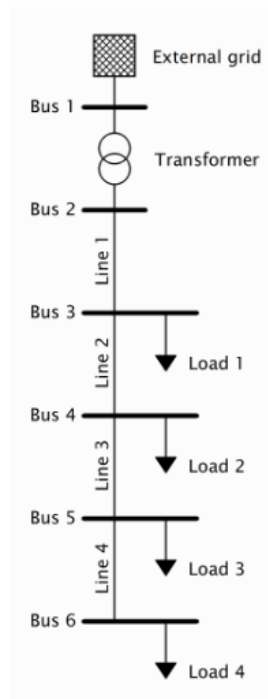

Figure 12 Four load branch
- Four load branch (Figure 12)